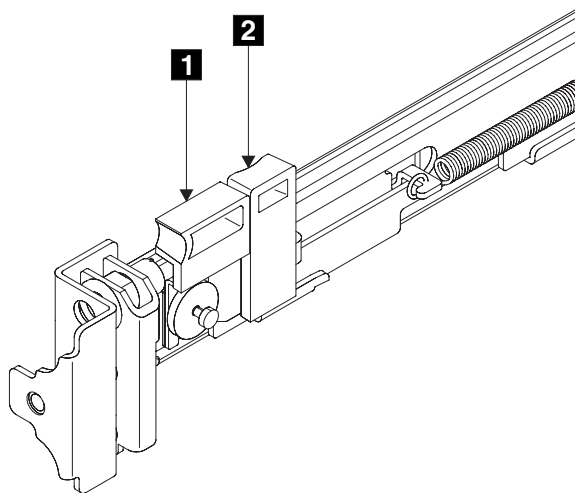

Figure 22. Retracting the latch lock carrier
2. Put your finger against the side of the latch-lever **1** and put your thumb against the front of the latch-lock **2**. See Figure 22.